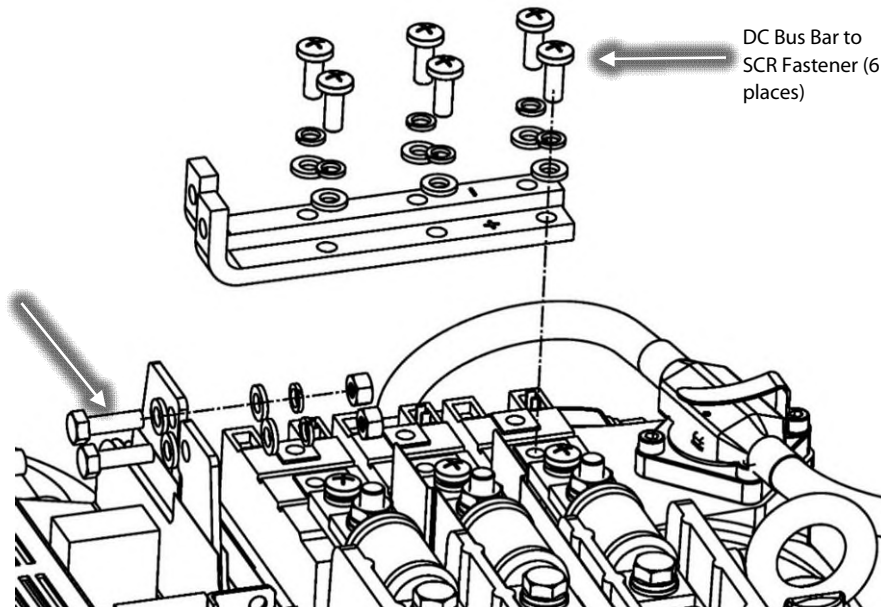

Figure 7 – DC Bus Bar Removal
15. Remove the M6x20 fasteners that secure the DC Bus Bars to the Capacitor Bus Bar Assembly. Refer to Figure 7 (DC Bus Bar Removal) for this and the following step.
24. Reconnect the DC Bus Bars to the SCRs and torque to specification. Refer to Figure 7 (DC Bus Bar Removal).
25. Reconnect the DC Bus Bars the DC Bus and torque to specification. Refer to Figure 7 (DC Bus Bar Removal).